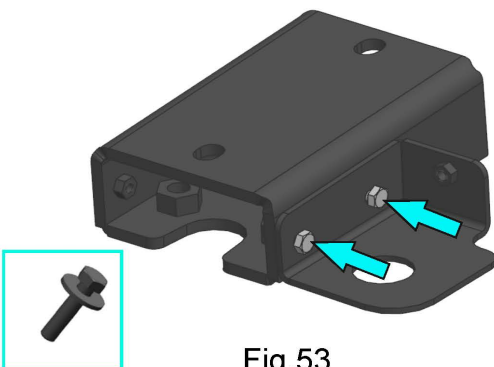

Fig.53
53. Install intercooler bracket (item I1) on recovery point bracket (item H1) and fix using bolts M6x20, washers 6 (item A1, D1) (fig.53).